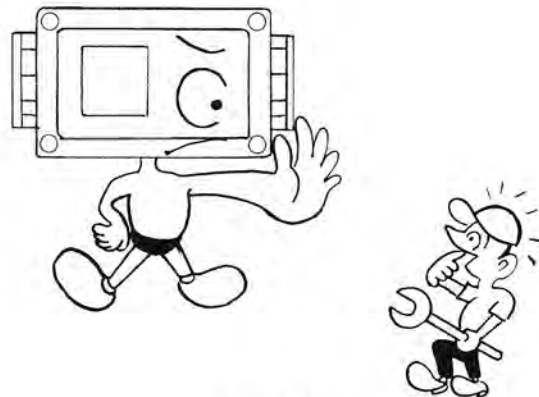

Fig. 15
3. Each unit of the C-D ignition system is cemented with a certain resin and it cannot be disassembled. (Fig. 15)